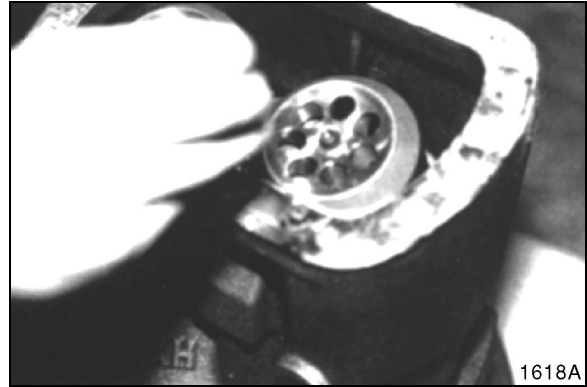

Figure 25
9. Remove guide from housing using a wire of about 1 mm (0.039") or pliers. See Figure 25.